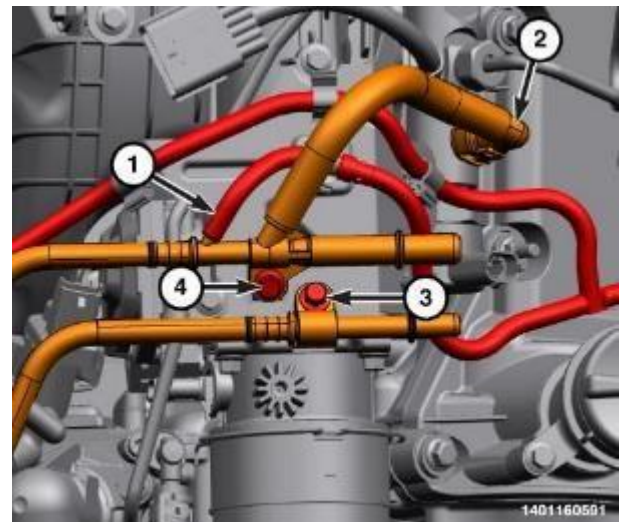

Figure 14 – Fuel Return Lines
21. Disconnect the fuel return lines (1, 2) (Figure 14).
22. Remove the fuel supply line bolt (3) and return line bolt (4) and both lines (Figure 14).